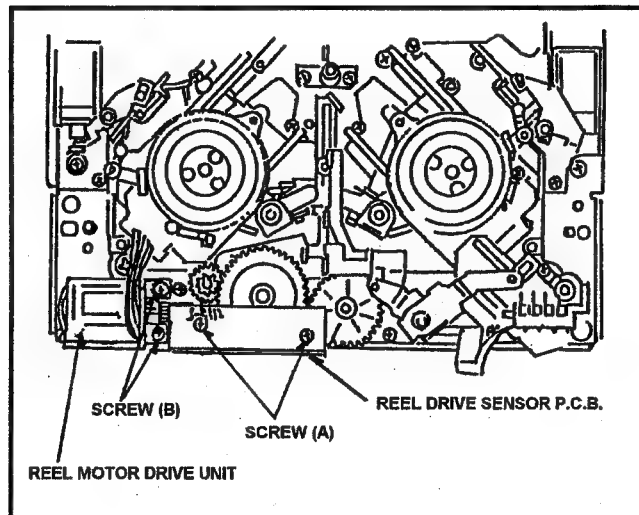

Fig. 6-16-1 Removal of Reel Drive Motor Unit
4. Unscrew the 2 screws (A) and remove the Reel Drive Sensor P.C.Board as shown in Fig. 6-16-1.
5. Unscrew the 2 screws (B) and remove the Reel Drive Motor Unit as shown in Fig. 6-16-1.